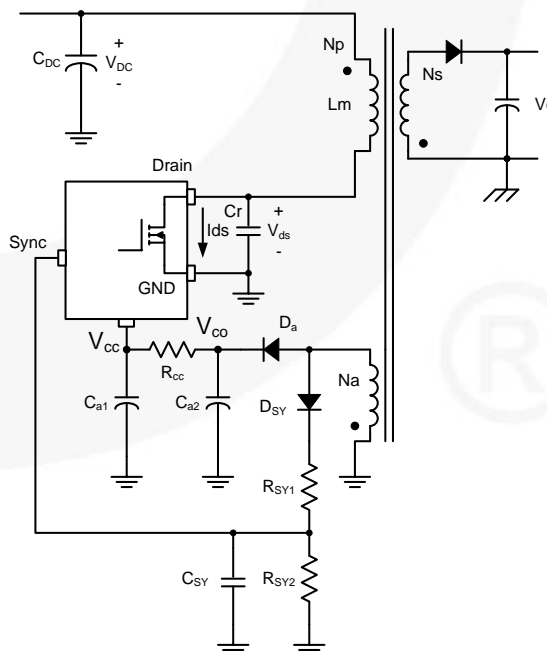
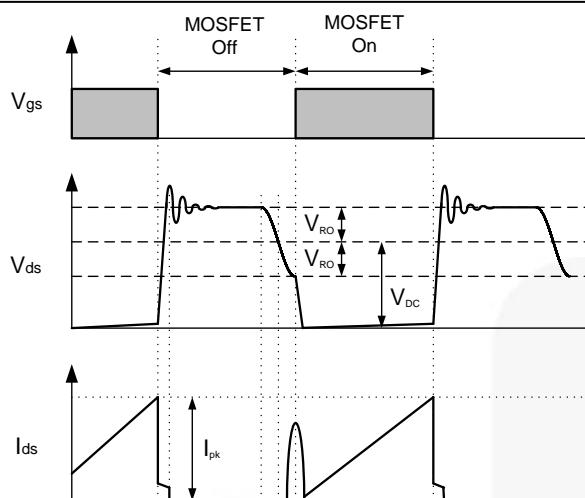
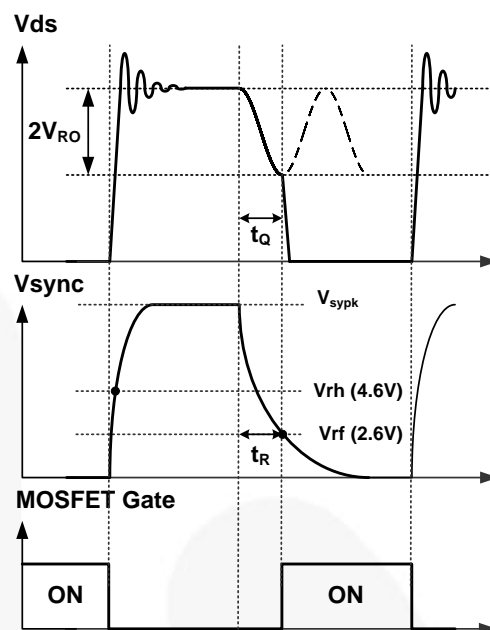

Figure 27. Synchronization Circuit
Figure 28. Quasi-Resonant Operation Waveforms
Figure 29. Normal QR Operation Waveforms
2. Synchronization: The FSCQ series employs a quasi-resonant switching technique to minimize the switching noise and loss. In this technique, a capacitor (C_r) is added between the MOSFET drain and the source, as shown in Figure 27. The basic waveforms of the quasi-resonant converter are shown in Figure 28. The external capacitor lowers the rising slope of the drain voltage to reduce the EMI caused when the MOSFET turns off. To minimize the MOSFET's switching loss, the MOSFET should be turned on when the drain voltage reaches its minimum value, as shown in Figure 28.
The minimum drain voltage is indirectly detected by monitoring the V_{CC} winding voltage, as shown in Figure 27 and Figure 29. Choose voltage dividers, R_{SY1} and R_{SY2} , so that the peak voltage of the sync signal (V_{syk}) is lower than the OVP voltage (12 V) to avoid triggering OVP in normal operation. It is typical to set V_{syk} to be lower than OVP voltage by 3–4 V. To detect the optimum time to turn on MOSFET, the sync capacitor (C_{SY}) should be determined so that t_R is the same with t_Q , as shown in Figure 29. The t_R and t_Q are given as: